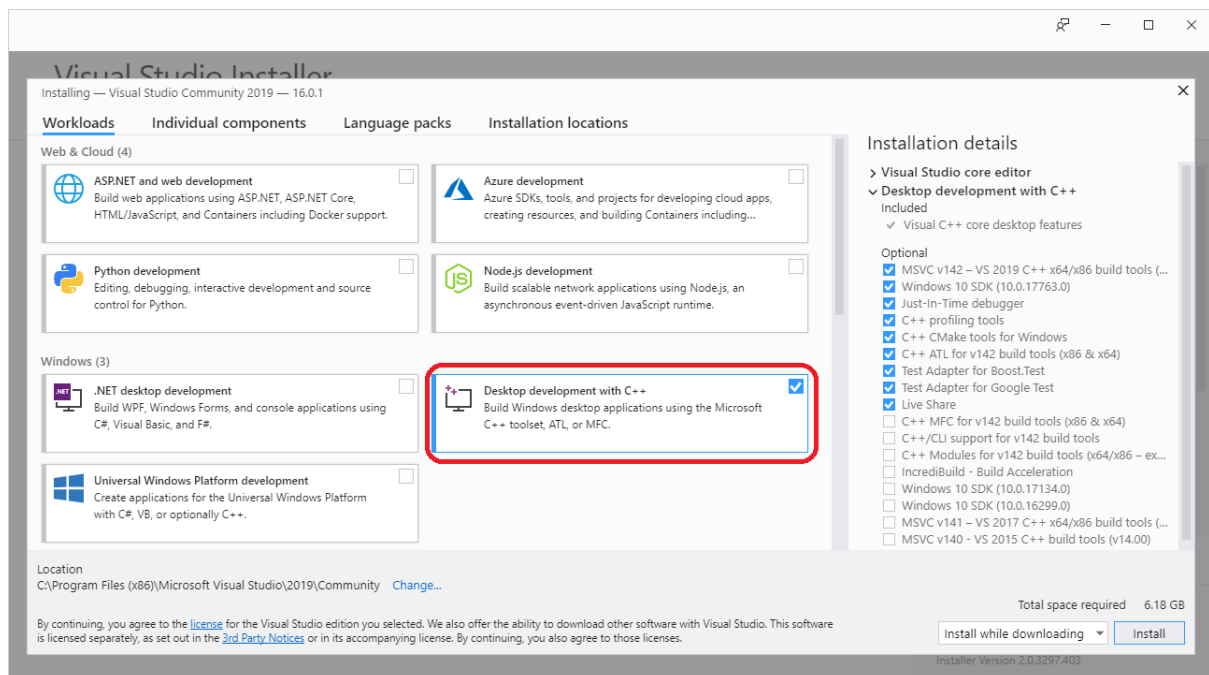

Figure 9-1: In Workloads tab select Desktop Development with C++
1. Under the **Workloads** tab users can select **Desktop Development with C++** as shown below Figure 9-1.